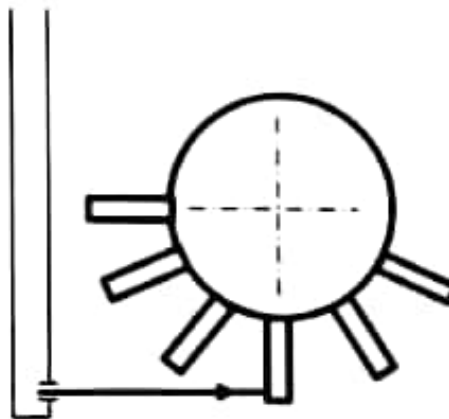

Fig Q9
9. A jet of fresh water from an orifice plate strikes a series of flat vanes mounted on a rotor as shown in Fig Q9.
- (a) the actual velocity of the jet; (2)
- (b) the angle between the jet and the vane at the point of contact; (6)
- (c) the force acting on the vane; (6)
- (d) the power developed by the rotor at the instant shown in Fig.Q9. (2)